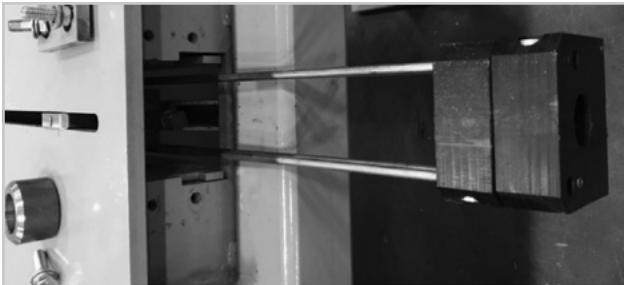

Figure 79
- Turn axis until the Acme Nut becomes completely unthreaded (Figure 79)